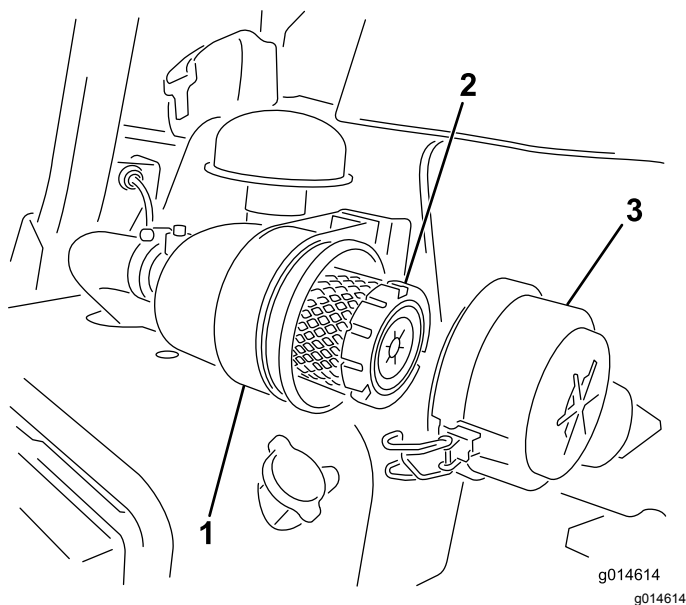

Figure 39
1. Release the latches securing the air-cleaner cover to the air-cleaner body (Figure 39).
7. Secure the latches (Figure 39).